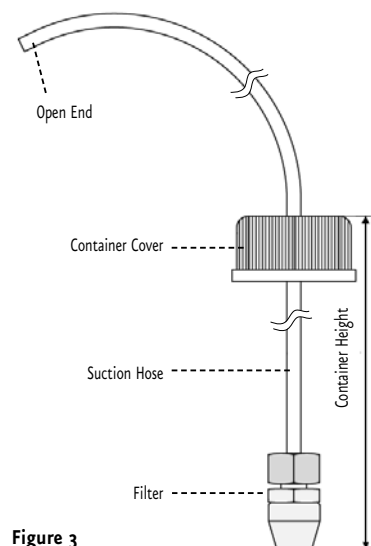

Figure 3
3. Insert the suction hose with the open end from below through the hole in the container cover (see Fig. 3).
1. Unscrew the suction end nut from the pump head and remove short end of shipping hose (see Fig. 3)(discard shipping hose, keep pressure end nut).
3. Unscrew the pressure end nut from the pump head and remove the pressure hose from the pressure valve (see Fig.3).